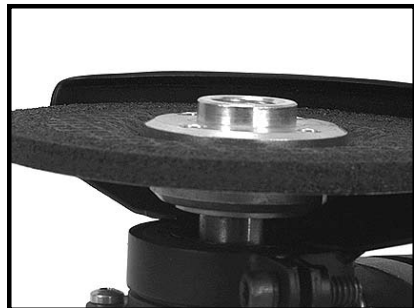

Fig. 6
6. Position outer flange to spindle with flat side against wheel, Fig. 6, and thread into place hand tight.